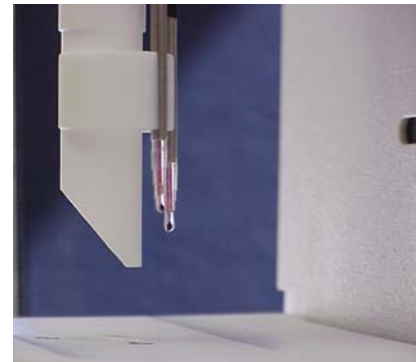

Figure 4: Position of Sensors
- Step 14)** Slip the sensor clip back onto the Down Tube while holding the platform down. Be careful not to knock the sensors as this could cause damage. Verify that the sensor clip and sensors are properly aligned. Refer to Figure 4.